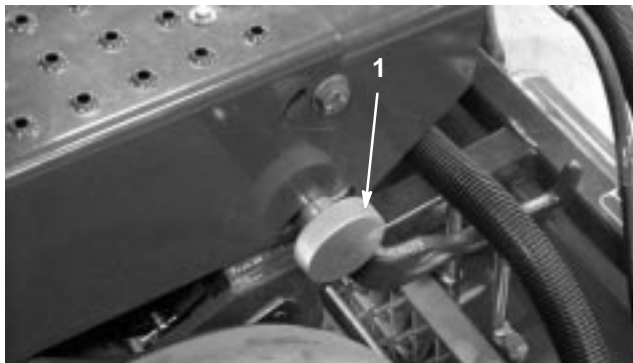

Figure 5
3. Remove the cotter pin securing steering arm locking knob (Fig. 5) and remove the knob.